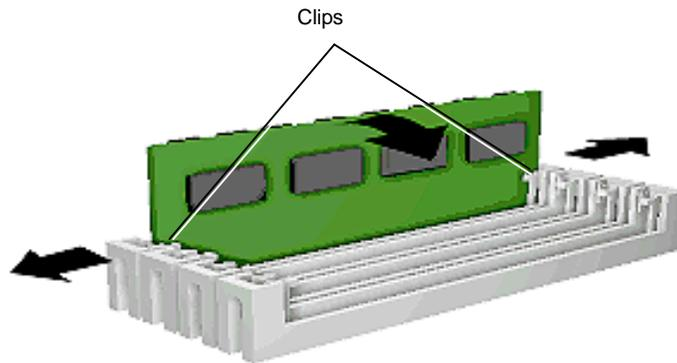

Figure 3-9 Removing a SIMM
4. Push the SIMM away from the locking tabs and remove it from the socket (see Figure 3-9).